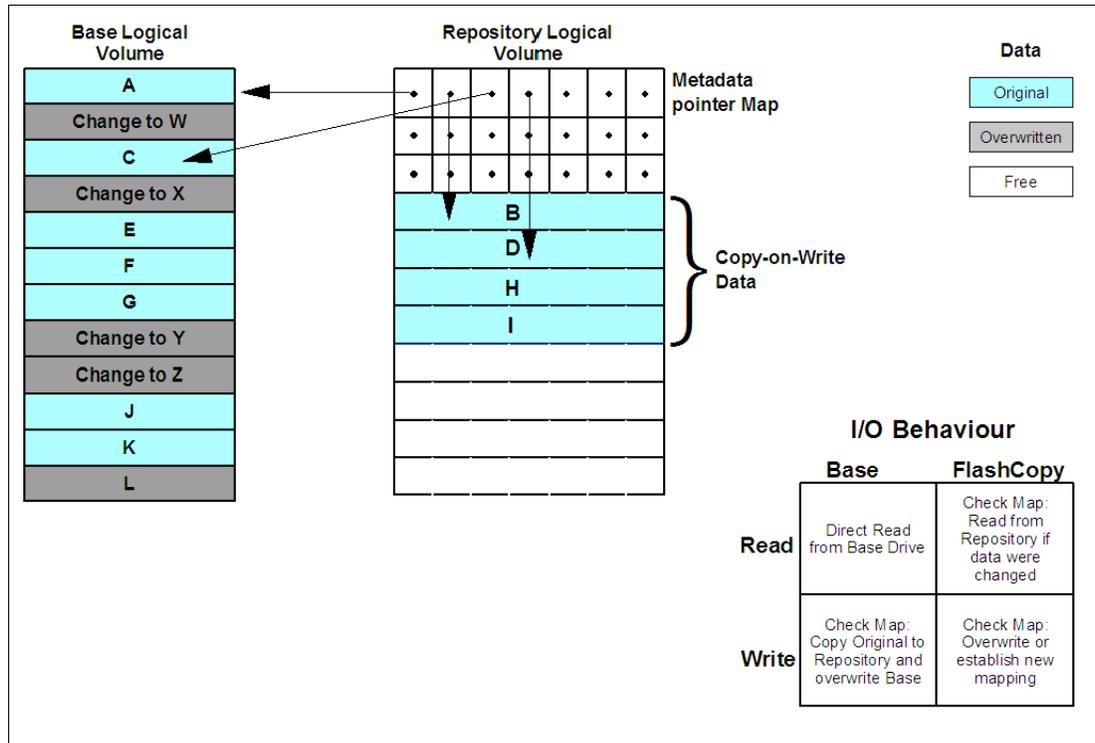

Figure 7-1 FlashCopy read and write schema
When you take a FlashCopy, the controller suspends I/O to the base logical drive for only a few seconds. Meanwhile, it creates a new logical drive called the *FlashCopy repository logical drive*, where it stores FlashCopy metadata and copy-on-write data (Figure 7-1). It will build a metadata database (DB) that contains only pointers. When the controller finishes creating the FlashCopy repository logical drive, I/O write requests to the base logical drive can resume.